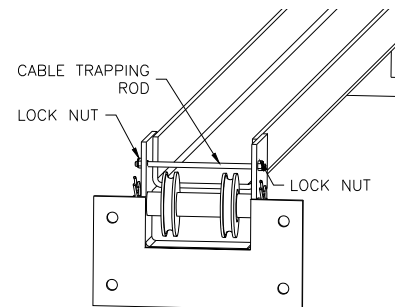

Fig 4-Cable Trapping
- 15) At the upper beam sheave locations disassemble and reassemble the cable trapping rod to install the cable onto the sheave, **See Fig 4**. To install the cable bottom sheave will need to be removed then reassembled.